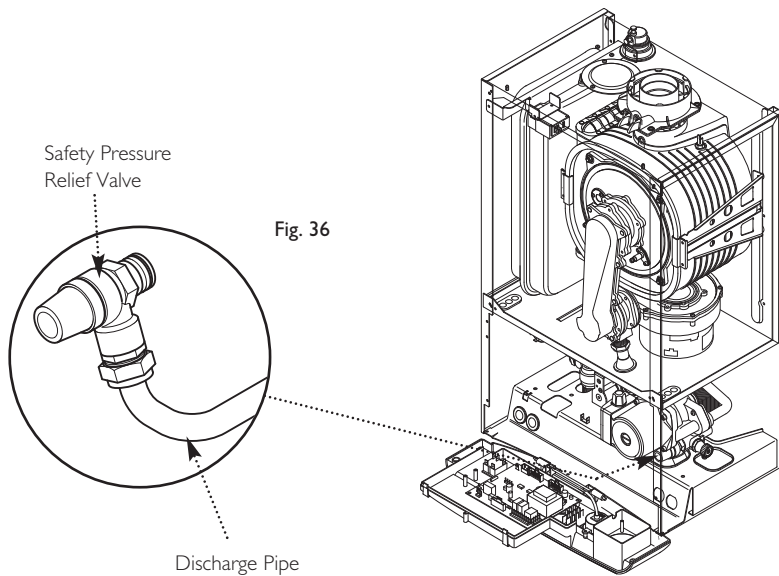

Fig. 36
10.4 Fitting the Safety Pressure Relief Discharge Pipe (Fig. 36)